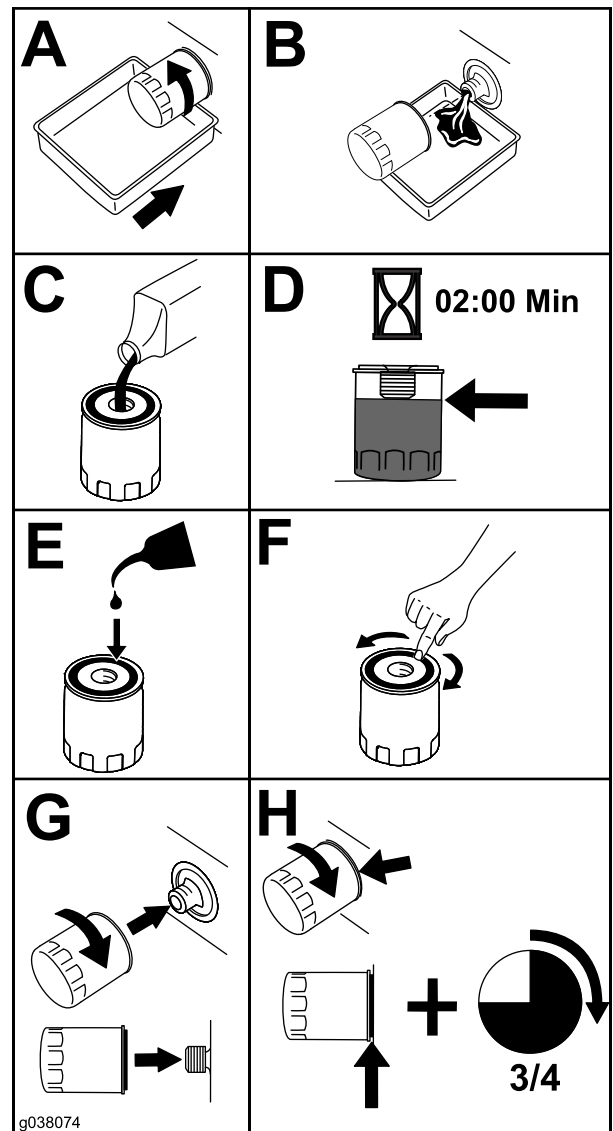

Figure 57
5. Change the engine-oil filter as shown in Figure 57.